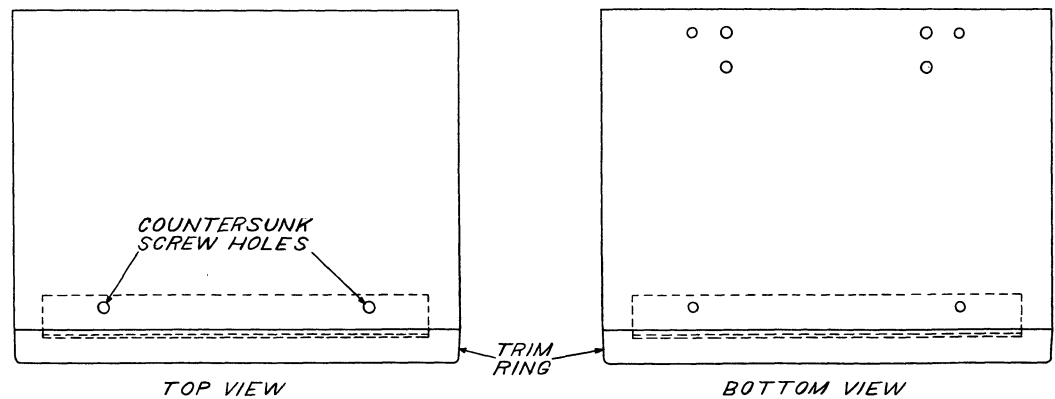

Figure 1-1. Top and Bottom Views of 55G-1 Cabinet.
- c. Remove two rear feet. Remove two flat-head and two #6 screws on bottom of cabinet. Remove two countersunk screws on top of cabinet (figure 1-1). Tilt front panel and slide it through trim ring to remove chassis from cabinet. Next, remove front feet from cabinet.